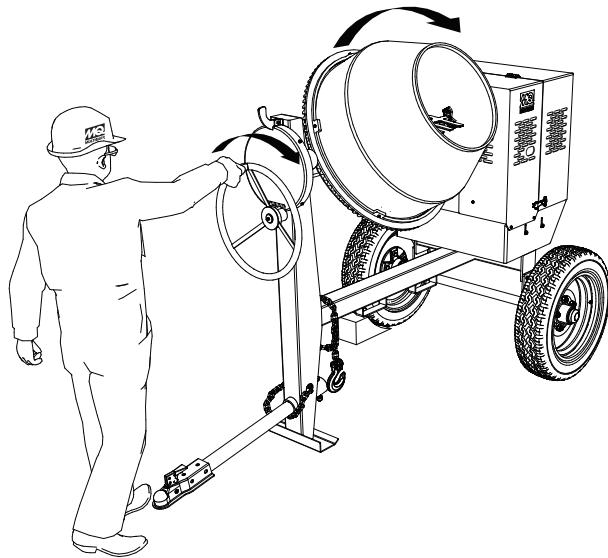

Figure 21. Mixing Drum Positioning
1. To position the tub, make sure the mixer is placed on firm level ground, then pull up on the dump latch (Figure 21) and turn the hand wheel until the tub is at the desired position. Once the tub is at the desired position, pull down on the dump latch to lock the tub in position.